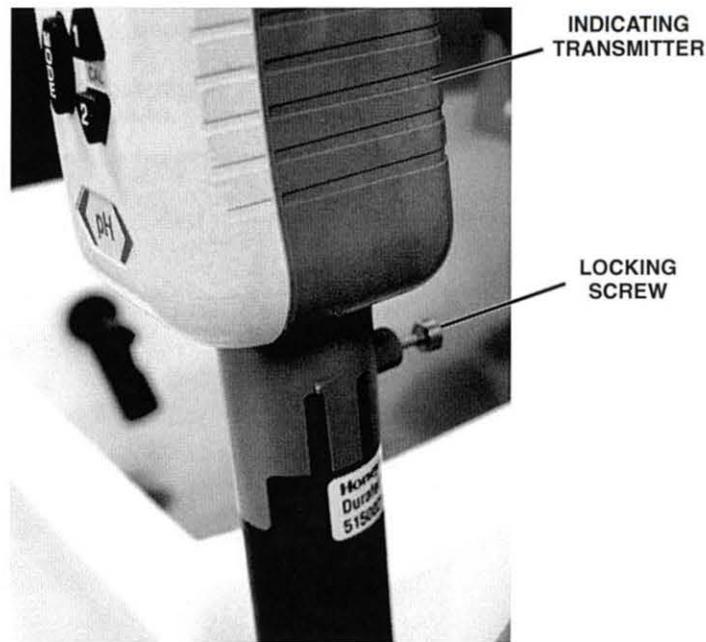

Figure 41. Locking Screw on Back of Indicating Transmitter
- 7. Locate the locking screw on the back of the indicating transmitter, shown in figure 41, and turn it clockwise to lock the indicating transmitter in place.